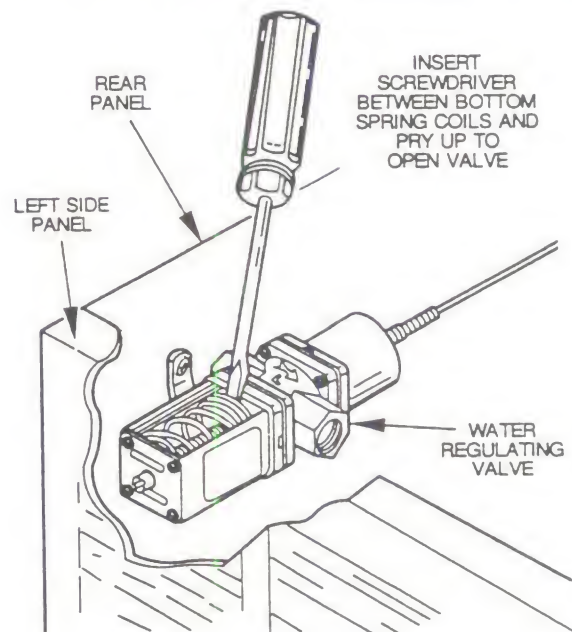

Figure 20. MANUALLY OPEN WATER REGULATING VALVE
3. Pry open the water regulating valve by inserting a large standard screwdriver between the bottom spring coils of the valve. Pry the spring upward to open the valve, Figure 20.